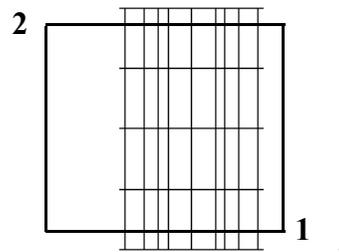

Figure 10-25 Beer Can Selection Points
3. Draw a **selection box** from points **1 to 2** as shown in **Figure 10-25** and as noted below:
- Using the example to the right as a guide, click the left mouse at the lower right area of the surface area (1).
- Position the mouse on the opposite, upper left area as shown in **Figure 10-25** and click the left mouse button (2). Note that as the mouse is moved, a box is drawn around the area.